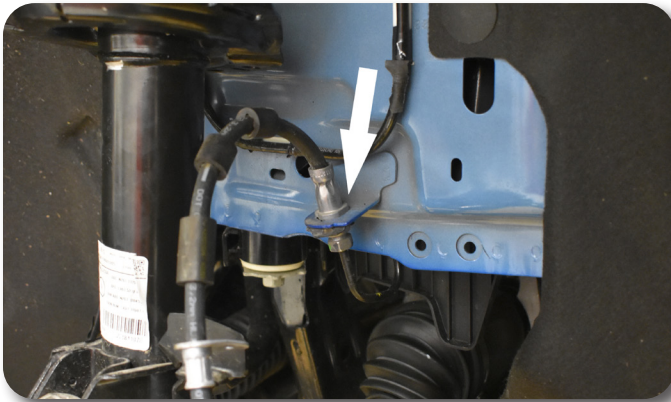

Figure 11
17. In some cases the brake line mounting tab on the body may need to be bent for extra slack in the line at droop. **Figure 11** Torque hardware to 97 in-lbs.